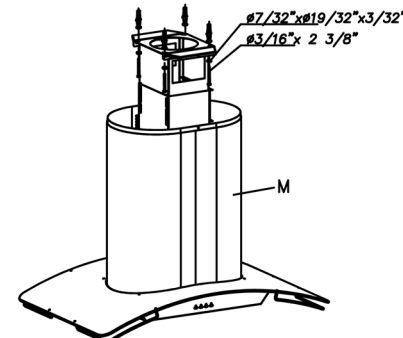

Fig. 6
- Introduce the exterior tubing (M) and fix the structure to the ceiling (Fig.6).
- Lighting control lamp. Fig. 6. (Ref. E).